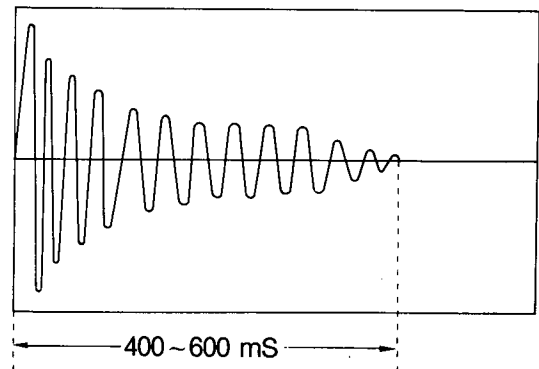

fig 2
(2) When you play C4, confirm that the decay time of output wave is like the chart below. If it is different, adjust. (fig 2) VR1 to obtain as below